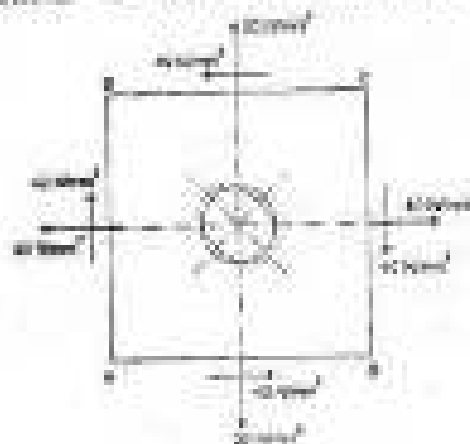

Fig. 1
- b) On a mild steel plate, a circle of diameter 50 mm is drawn before the plate is stressed as shown in Fig. 1. Find the lengths of the major and minor axes of an ellipse formed as a result of the deformation of the circle marked. Take $E = 2 \times 10^5 \text{ N/mm}^2$ and $\nu = 0.25$. [9]